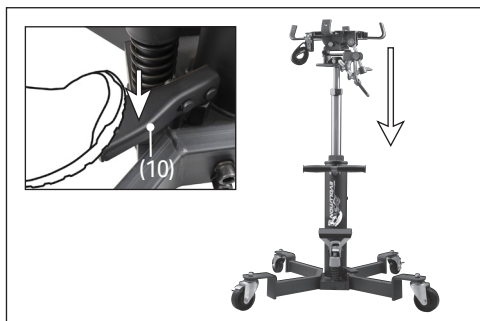

Fig. 1
3. Using the transport handle (16), move the jack into position beneath the vehicle.
4. Ensure that the release valve is closed (Fig. 1) and operate the pump pedal (9) to extend the rams until the saddle (11) contacts the transmission system.
5. Adjust the position of the saddle ratchet arms (12) to properly grip the load by squeezing the locking tabs either side of each arm and moving the arms as appropriate.
6. Use the forward/backward (3) and left/right (5) tilt handles to adjust the angle of the saddle as appropriate.